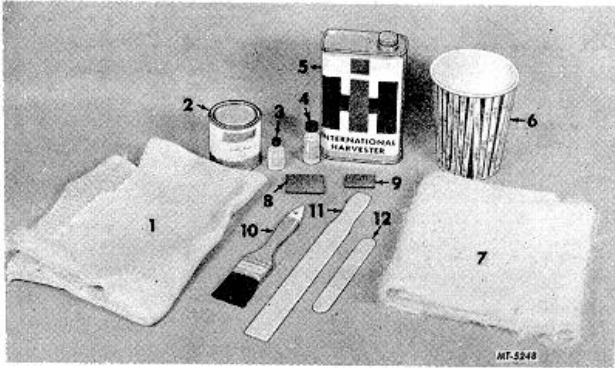

Fig. 1. Fiberglass Repair Kit.
A fiberglass reinforced plastic repair kit (Fig. 1) has been made available which contains the material needed to repair either fiberglass or sheet metal components. This kit may be obtained through regular Service Part channels.
Legend for Fig. 1
- IH Repair Kit (Fig. 1)